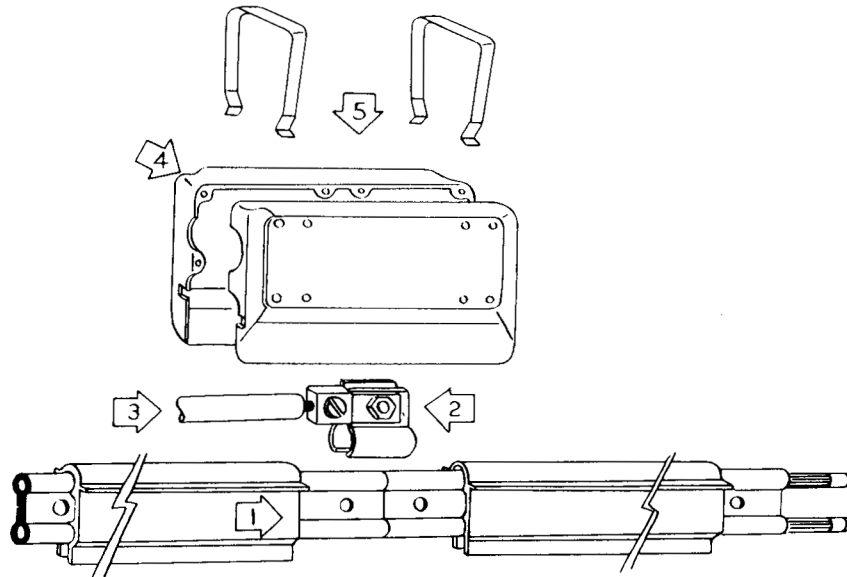

FIGURE 68
5. Install center power feed. Refer to Figure 68. Locate power feed at conductor joint or cut the conductor insulating cover to accept the connector clamp. Install the connector clamp (2) and the power feed-in cable (3). Place the power feed insulating case halves (4) around the connector clamp and secure with two spring clips (5).